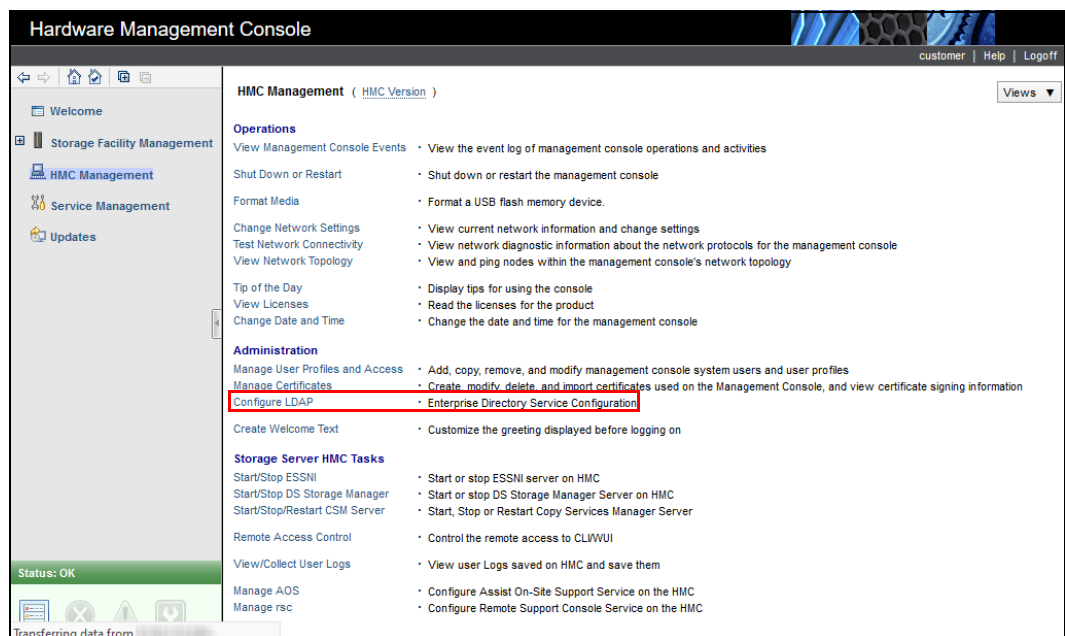

Figure 6-26 Configuring LDAP
1. In the HMC Management window, select **Configure LDAP**, as shown in Figure 6-26.